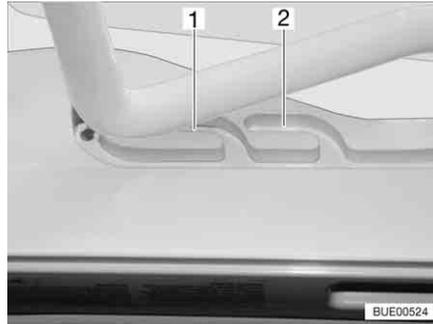
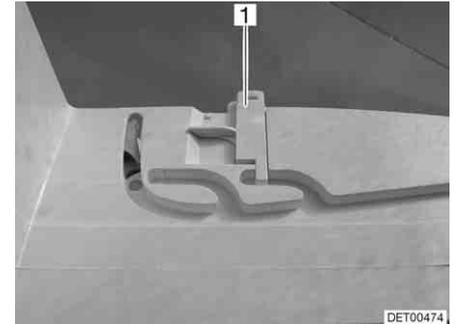

Fig. 106 Heki skylight in ventilation position
Fig. 107 Ventilation position locking mechanism
The Heki skylight can be put in two ventilation positions: Bad weather position (Fig. 106,1) and central position (Fig. 106,2). Depending on the model, the skylight can be locked in the central position with both left and right latches (Fig. 107,1) on the skylight frame.
- Push the bar slightly upwards and into the selected guide (Fig. 106,1 or 2) and lock if necessary.